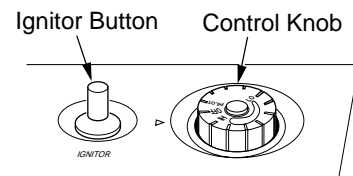

Figure 19 - Control Knob In The OFF Position
4. Wait five (5) minutes to clear out any gas. Then smell for gas, including near the floor. If you smell gas, **STOP!** Follow "B" in the safety information above. If you don't smell gas, go to the next step.
5. Turn control knob counterclockwise  to the PILOT position. Press in control knob for five (5) seconds (see Figure 19).
- If control knob does not pop up when released, contact a qualified service person or gas supplier for repairs.**Note:** If pilot goes out, repeat steps 3 through 7. This heater has a safety interlock system. Wait one (1) minute before lighting pilot again.